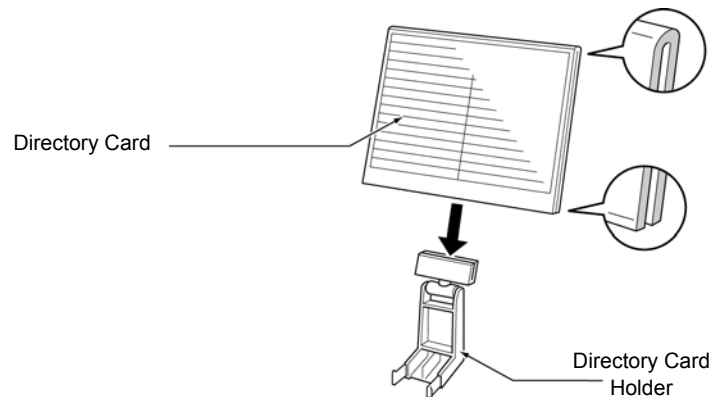

Figure 5-49 Attaching Directory Card to Directory Card Holder
1. After recording the information on the lined insert, reinsert it between the plastic panels of the directory card. Attach the directory card to the directory card holder as illustrated in Figure 5-49 Attaching Directory Card to Directory Card Holder. Note that the open end slides into the directory card holder.